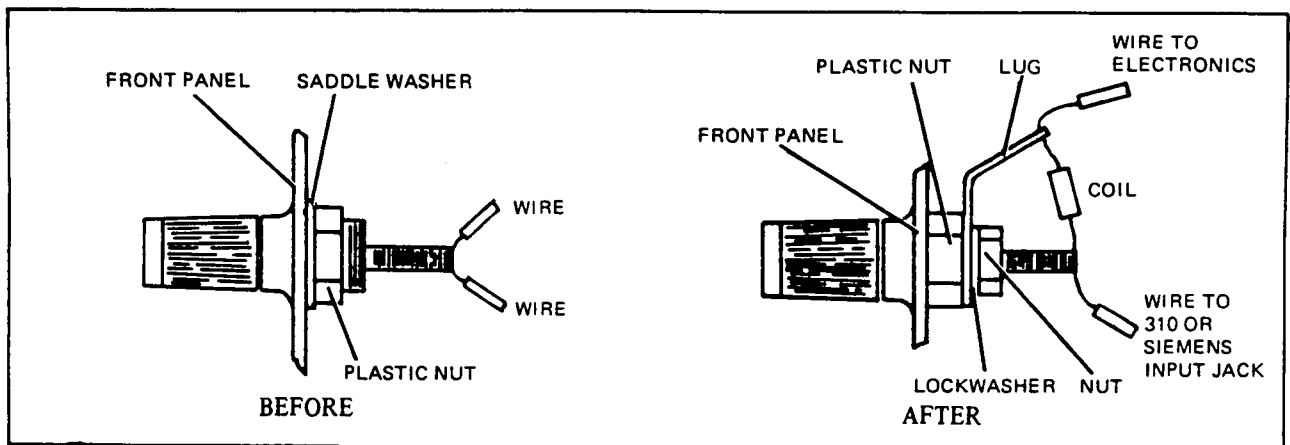

Figure 3-1. Input Banana Jack.
2. Unscrew the plastic mounting nut and remove the flat saddle washer (see Figure 3-1). Discard saddle washer.
3. Reinstall and tighten the plastic mounting nut. Then add the solder lug, lockwasher, and nut (Part No. 2950-0043) in that order to the rear of the banana jack (see Figure 3-1).
5. Reconnect the wires as shown in Figure 3-1.